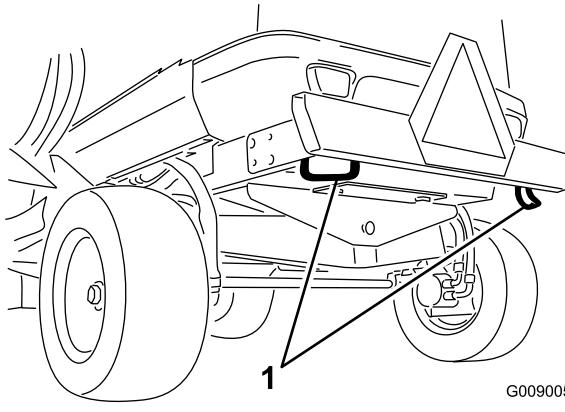

**Figure 40**
- Under the front of the operator's platform (2 places) (Figure 40).